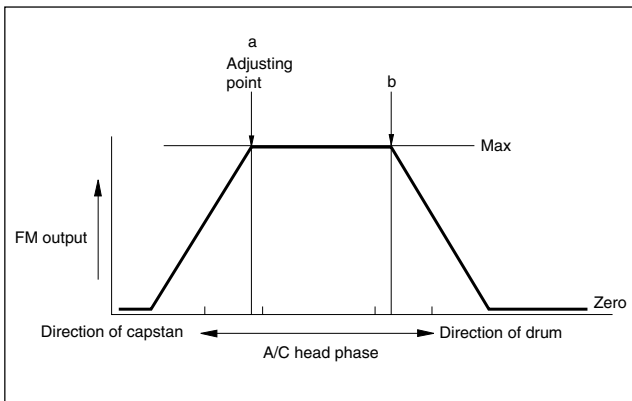

Fig. 2-4-8 Phase adjustment point of control head
3. Operate the tracking button in the center and manual tracking mode by pressing the tracking (+) and (-) buttons and confirm that the FM output level is maximum at the center position as shown in Fig. 2-4-8.
4. If necessary, slightly loosen the setscrews ④ and ⑤ and insert the Tweezers into the notch and guide hole to move the A/C head fully in the direction of the capstan to the extent.
5. Gradually move the A/C head toward the drum to find the position where the FM output level maximum for the first time (a' - b' in Fig. 2-4-8).
6. Fine adjust the phase of the A/C head and tighten the screws ④ and ⑤ at the point a.